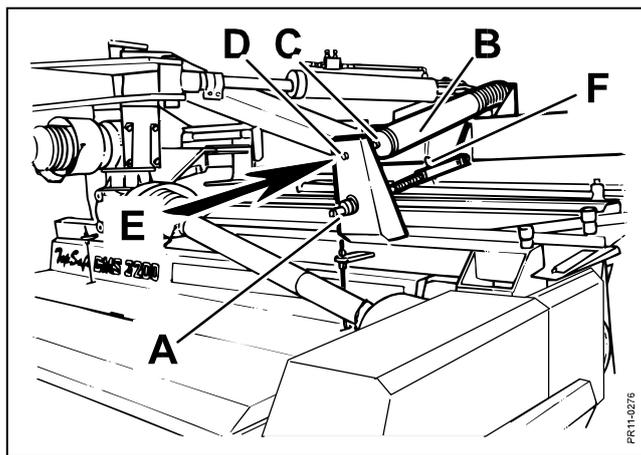

Fig. 3-14
- Fig. 3-14** The vernier adjustment is made by adjusting the inclination of the cutter bar on the spindle at **A**. A spring cotter **F** maintains the adjustment. **The length of the spindle must be the same in both the left and the right side! This is important to ensure that the cutting unit does not heel resulting in an unsatisfactory function.**
- Fig. 3-14** 4) The **Top Safe** springs **B** are adjusted until the cutting platform can be moved in the direction of **E**, with a **suitable pressure**. The counted nut **C** is loosened and the adjustment is made by means of **D**.
NB! These **TOP SAFE** springs have not been adjusted from the factory because of the transport and after adjustment it should be checked, **that the springs have the same torque in the right and the left side**. This can either be done by weight or by comparing the lengths of the springs **B** (fig. 3-14).
- A) By loosening the horizontal top springs a little (Fig. 3-14), page 34, and tightening the vertical height relief springs a little (Fig. 3-12).